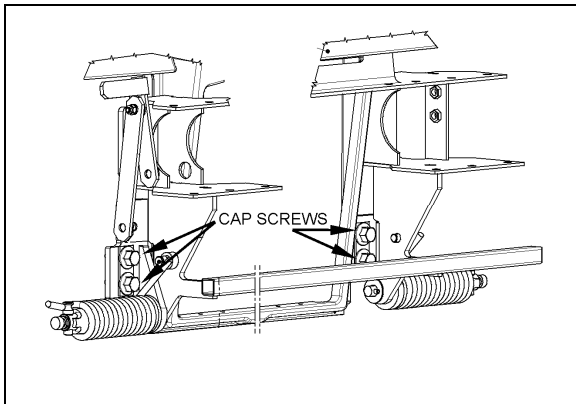

FIGURE 10: FRONT BUMPER ASSEMBLY
2. Remove 4 cap screws holding bumper to vehicle and remove bumper (Figure 10).